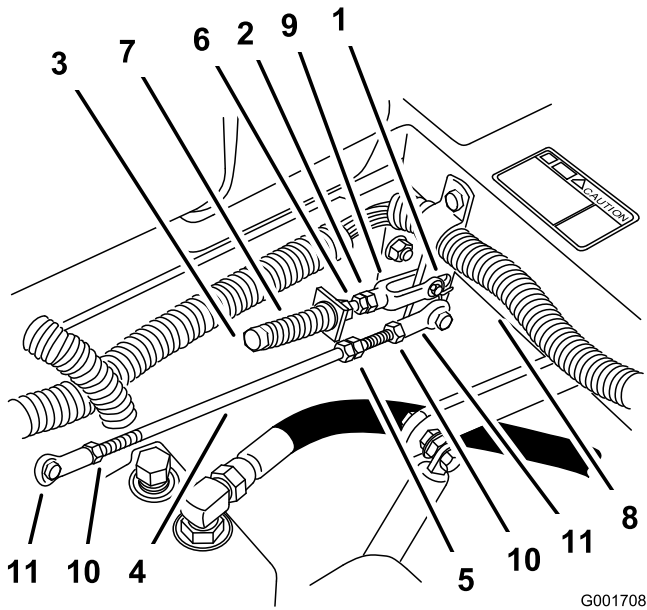

Figure 52
8. If adjustment is needed, loosen the nut and jam nut against the yoke (Figure 52).
- Apply slight rearward pressure on the motion control lever, turn the head of the adjustment bolt in the appropriate direction until the control lever is centered in the neutral lock position (Figure 52).
- Tighten the nut and jam nut (Figure 52).